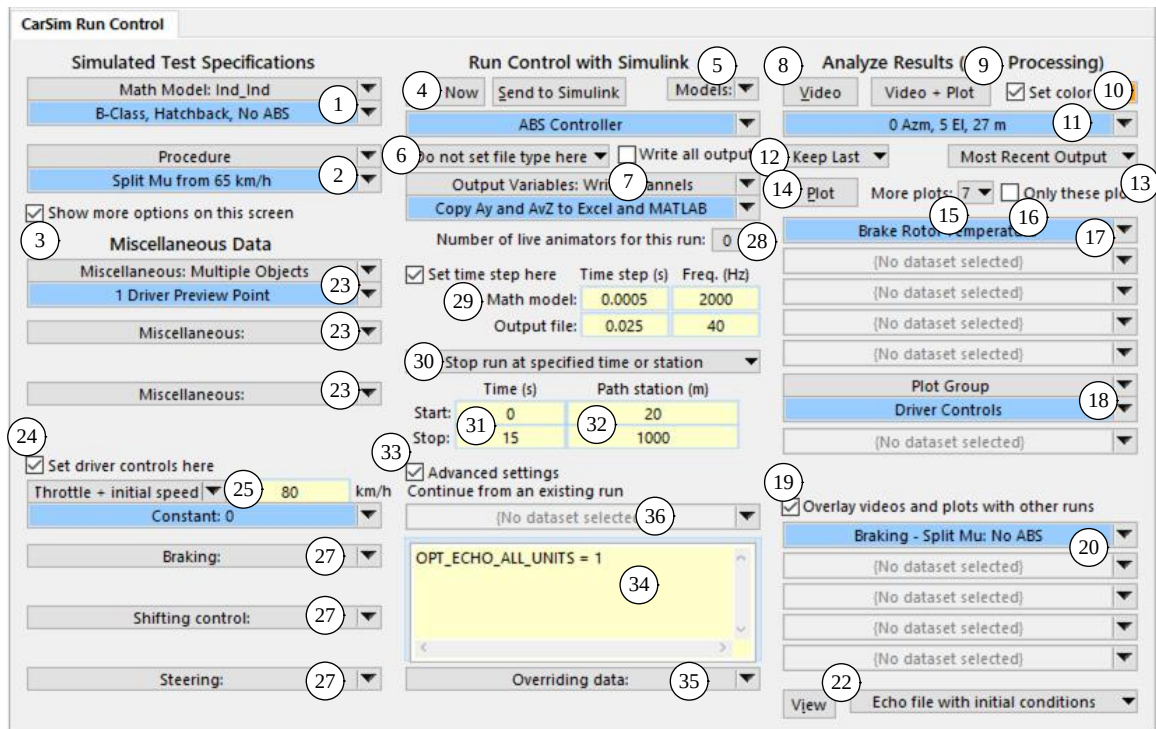
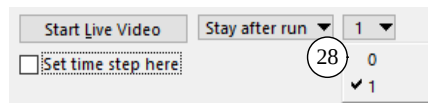
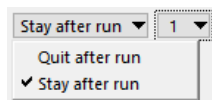
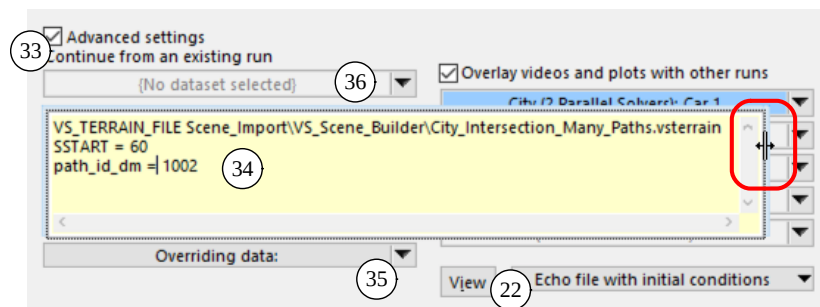

Figure 18. The Run Control screen with all controls visible.
Figure 21. Pull-down control for selecting the number of live animators.
Figure 22. Controls when there is one live animator.
Figure 25. Use a splitter control to widen the miscellaneous yellow field.
Figure 3 (page 3) shows the screen with only basic controls; Figure 18 shows a more complex appearance when most of the advanced options are selected and the vehicle model is connected to a Simulink model.
All the controls shown in Figure 3 are also present in Figure 18 and were described in the previous section. This remainder of this section (*Advanced Controls of the Run Screen*) describes the controls that were not visible in Figure 3.
- ²⁸ Pull-down control for selecting the number of live animators. If you want to disable live animation, then set the number to zero (Figure 18). If the selected number is greater than one, then the animators must be activated externally with display preferences for each. If the selected number is one, then two more controls appear to control the starting and stopping of the animator (Figure 21, Figure 22).
The default time steps for the numerical integration and output file can be specified in three places in the database; all have the same appearance as seen in Figure 18 (29).
The starting location is shown for all options where settings can be made about the position (keyword = SSTART). If the choice made in the above control 30 is to stop at a specified station, then a field is shown for the stopping station (Figure 18, keyword = SSTOP). Otherwise, a drop-down control is shown to specify the direction of travel (Figure 24, keyword = OPT_DIRECTION).
(33) **Advanced settings** checkbox. This checkbox replaces the current vehicle graphic with three controls (34), (35), and (36) (Figure 18, Figure 25). This must be checked in order to override settings for quick studies or diagnoses, or to continue a run.
This field is also a convenient place to locate VS Commands to define simple model changes, such as creating a new output variable. See *VS Commands Manual* for more information about this capability. In case there are VS Commands that are too long to view, you can use the edge splitter controls to make the field wider and taller (Figure 25).